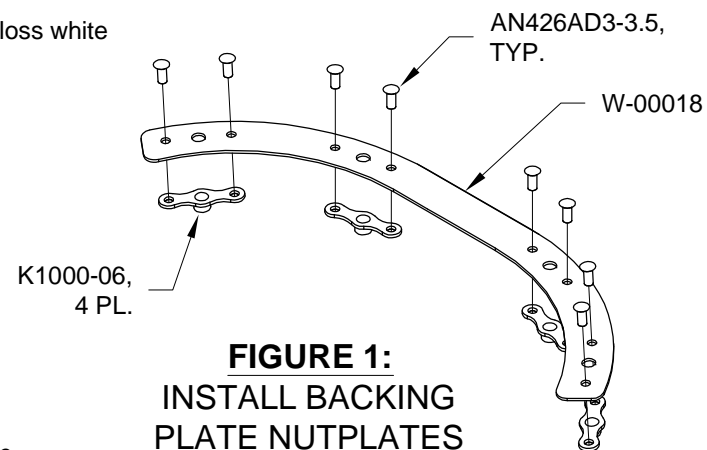

FIGURE 1:
Step 3: The nutplates called out in Figures 1 through 3 must have their attach holes dimpled before installation. Dimple one full shipset of all the nutplates called out in Figures 1 through 3. See Section 5.16 for more information on dimpling nutplates.
Step 4: Install nutplates to all four W-00018 Backing plates as shown in Figure 1.